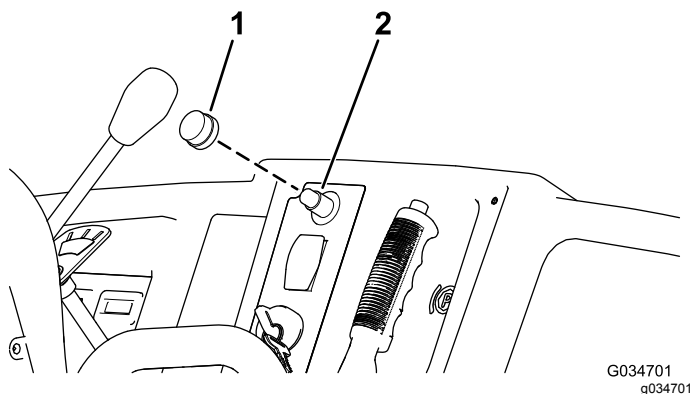

Figure 6
3. Install the rubber button to the horn switch (Figure 6).